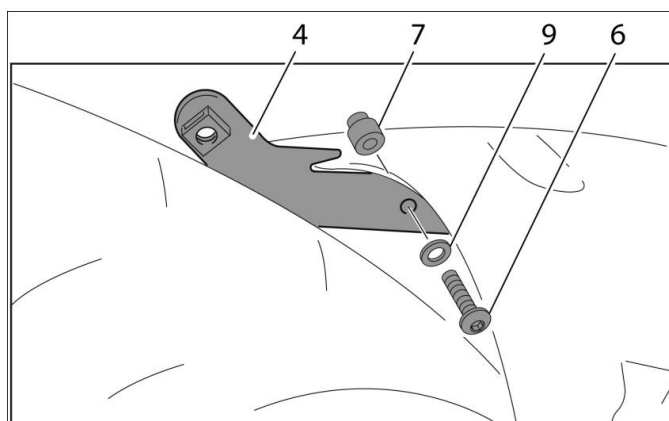

FIGURE 2
- 2- On the other side, remove the chain guide that is on the interior part of the swing arm. Next, place the cylinder (7) in the guide's inferior and tight the hardware (4) with the screw (6) and washer (9) supplied as the figure 2 shows. The edge of the hardware should rest on the swing arm as the figure 2 shows. In order to do this, it is recommended to take out the chain and put back the wheel to ease the access to the area.